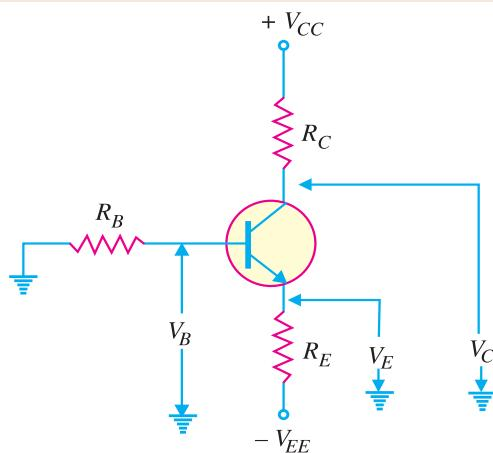

Fig. 8.44
**Solution.** Refer to Fig. 8.44.